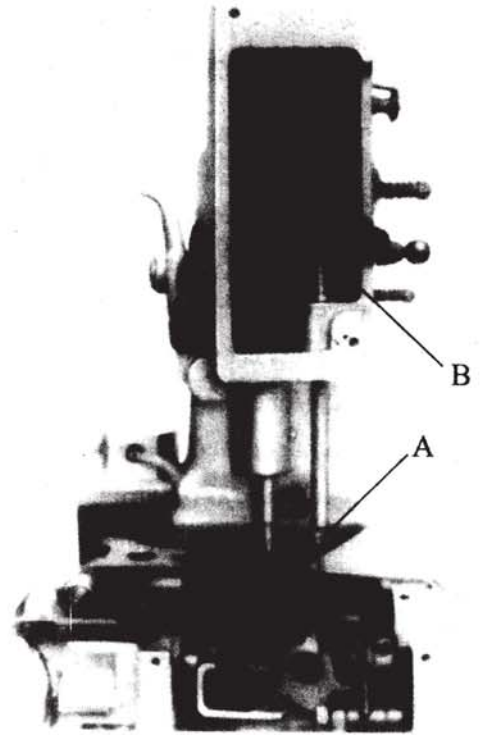
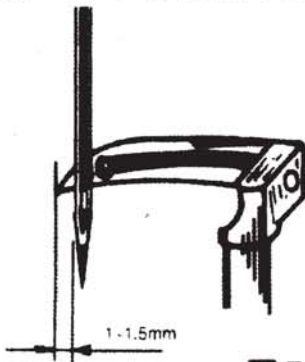

图3 Fig.3
图7 Fig.7
机针是易损零件，当针眼明显磨损，针尖磨钝或弯曲时，应更换新针。换针时，旋转皮带轮使针杆上升到最高点，用扳手拧松螺母（图3，A）换上新针，针柄必须插入针杆孔到底，针眼的凹形面须朝缝料前进方向；再紧固螺母。
卸下针板，将皮带轮按工作方向转动，使弯针运行至左边，当弯针尖超出机针直径1~1.5毫米(0.040至0.060英寸)时，机针的针眼上缘须和弯针的底边齐平(图7所示)。调整机杆高度时，拧松针杆连轴节螺钉(图3, B)，上下移动针杆至适合位置后再拧紧螺钉(B)，并重新装上针板。
Remove the needle plate. Rotate the machine pulley in operating direction until the looper moving to the left. When the looper point projects 1-1.5mm(.040 to .060in.) left of the needle, lower edge of looper and upper edge of needle eye must be flush in this position (Fig.7) For adjustment, loosen clamp screw(B, Fig.3) in the needle bar up or down as required. Retighten screw (B) and remount needle plate.